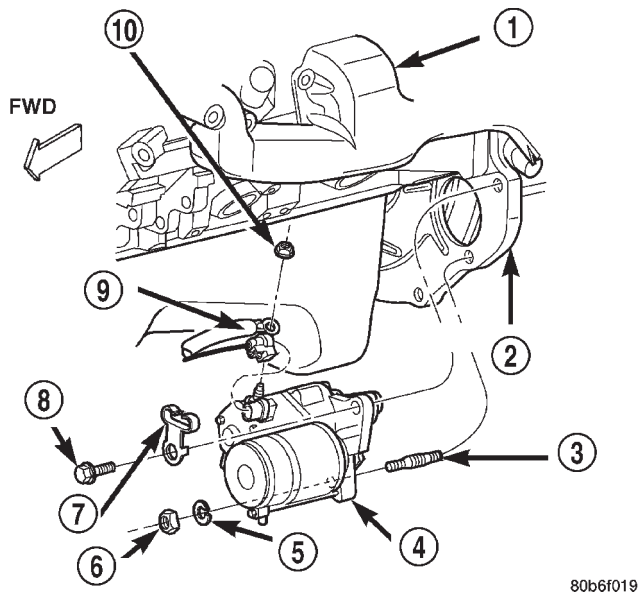

Fig. 9 Starter Motor Remove/Install - 5.9L Gasoline Engine
- (1) Disconnect and isolate negative battery cable.
- (2) Raise and support vehicle.
- (3) Remove nut and lock washer securing starter motor to mounting stud (Fig. 9).
- (4) While supporting starter motor, remove upper mounting bolt from starter motor.
- (5) If equipped with automatic transmission, slide cooler tube bracket forward on tubes far enough for starter motor mounting flange to be removed from lower mounting stud.
- (6) Move starter motor towards front of vehicle far enough for nose of starter pinion housing to clear housing. Always support starter motor during this process, do not let starter motor hang from wire harness.
- (7) Tilt nose downwards and lower starter motor far enough to access and remove nut that secures battery positive cable wire harness connector eyelet